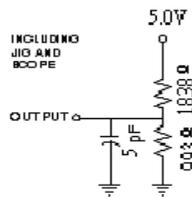

FIGURE 1B
5.) Transition is measured ±500mV from steady state with CL = 5pF as shown in Figure 1B. The parameter is guaranteed but not 100% tested.
10. Transition is measured $\pm 500\text{mV}$ from steady state with $C_L = 5\text{pF}$ as shown in Figure 1B. The parameter is guaranteed but not 100% tested.